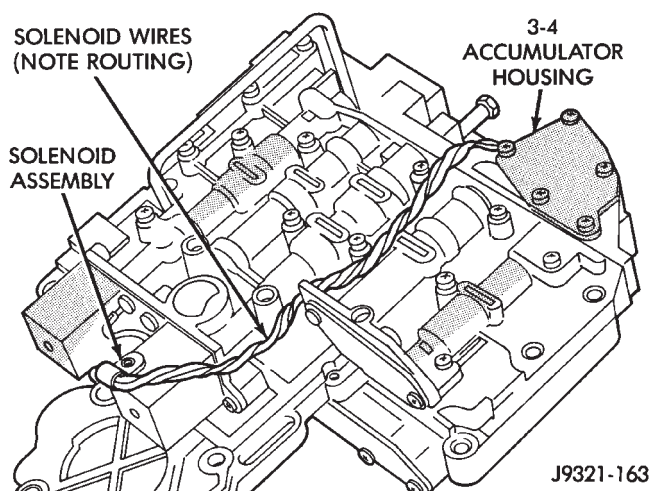

Fig. 125 Solenoid Wire Routing—46RH
(8) Verify that solenoid wires are properly routed (Fig. 125). **Solenoid wires must be clear of rear band lever, manual lever and park rod.**